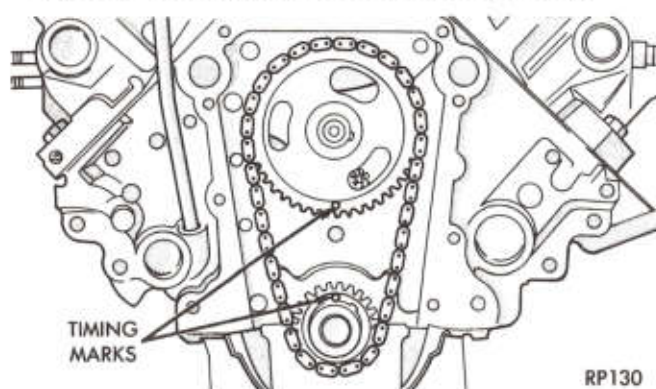

Fig. 27—Alignment of Timing Marks
(8) Turn crankshaft and camshaft to line up with keyway location in crankshaft sprocket and in camshaft sprocket.
(9) Lift sprockets and chain (keep sprockets tight against the chain in position as described).
(10) Slide both sprockets evenly over their respective shafts and use a straight edge to check alignment of timing marks (Fig. 27).
(11) Install the fuel pump eccentric, cup washer, and camshaft bolt. Tighten bolt to 35 foot pounds (47 N·m).
(12) Check camshaft for .002 for .006 inch (.051 to .0152mm) end play with a new thrust plate and up to .010 inch (.254mm) end play with a used thrust plate. If not within these limits install a new thrust plate.